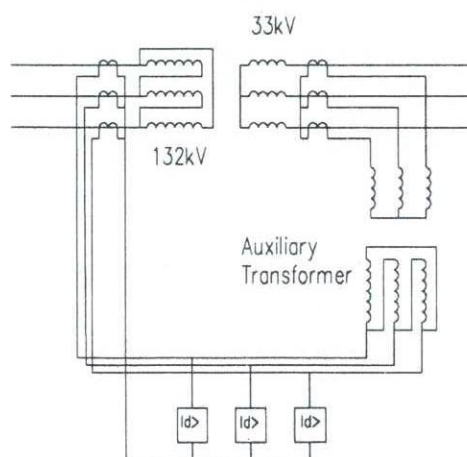

Figure Q2
- b) Figure Q2 shows a 132/33 kV transformer having continuous rating of 60 MVA, 140% short-time overload capacity and differential protection. High Voltage (HV) side CT is 300/5 and Low Voltage (LV) side CT is 1500/5. To ensure the stability for the differential protection scheme for load current and external through faults, the CT currents from the 132 kV high voltage and 33 kV medium voltage (MV) sides of the transformer must be balanced at the differential protection elements.